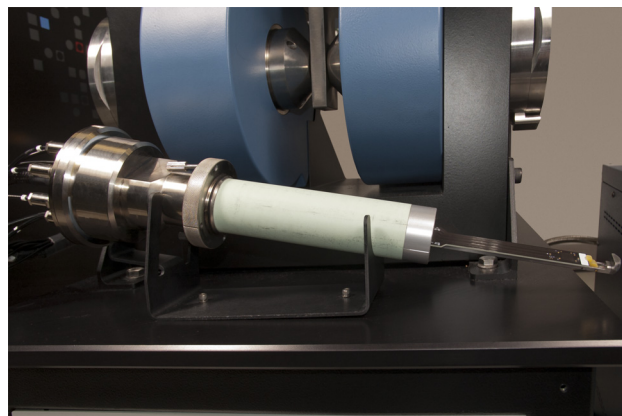

FIGURE 4-17 Left: Unscrew the two captive thumbscrews; Right: Standard insert parked on the sample insert stand
4. Unscrew the two captive thumbscrews on the standard insert (FIGURE 4-17).
6. Rest the standard insert on the sample insert stand so that the sample card is facing up (FIGURE 4-17).